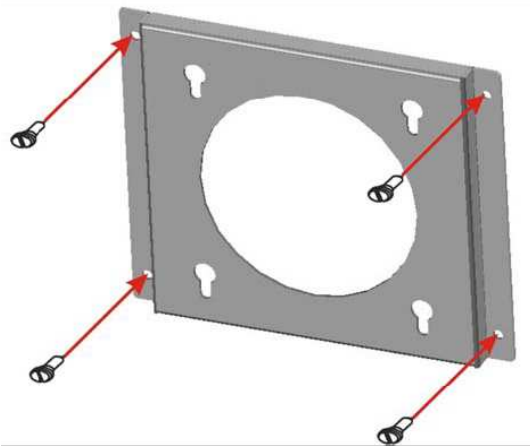

Figure 3-11: Wall-mounting Bracket
Step 5: Secure the mounting-bracket to the wall by inserting the retention screws into the four pilot holes and tightening them (see **Figure 3-11**).